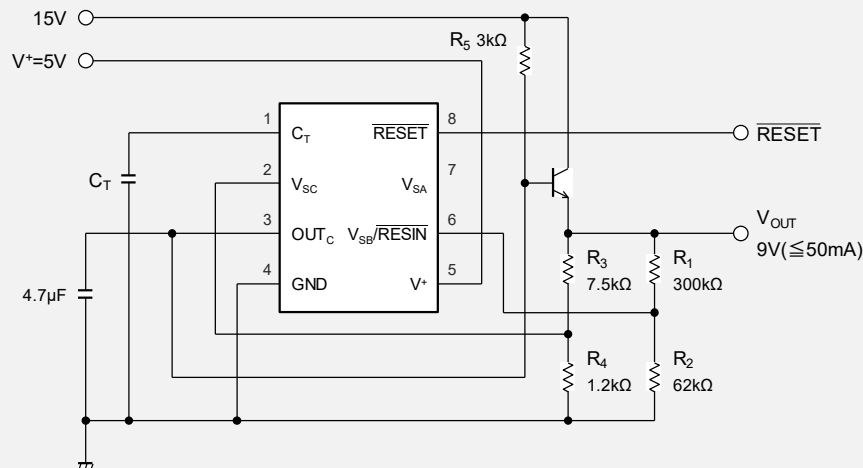

Fig. 11 Reference voltage output and voltage drop monitoring (e.g. 9V reference output, 5V, 9V monitoring)
- The reference voltage V_{OUT} and its detection voltage are calculated as the following formula. In case of resistor value In Fig.11, the reference voltage V_{OUT} is about 9.0V, the detection voltage (V_{OUT} falling) is about 7.2V and the detection voltage (V_{OUT} rising) is about 7.3V